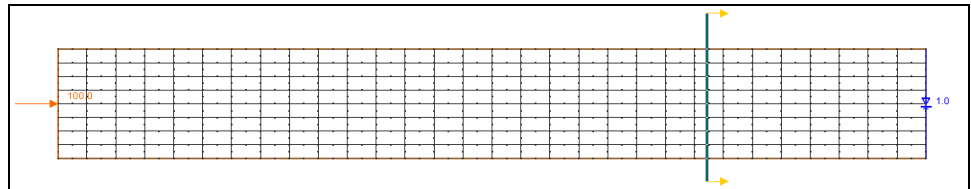

Figure 10 Placement of vertical observation arc
15. Using the **Create Feature Arc**  tool, and create a vertical arc from top to bottom across the flume at about 200 meters from the downstream boundary as shown in Figure 10.